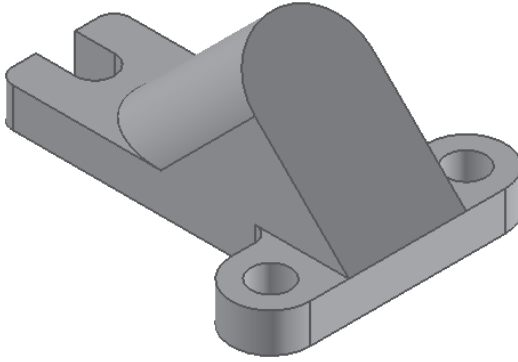

Figure 4-64 Model after creating the second feature on the inclined datum plane
10. Hide the sketch and the datum plane. Figure 4-64 shows the model after creating the second feature.